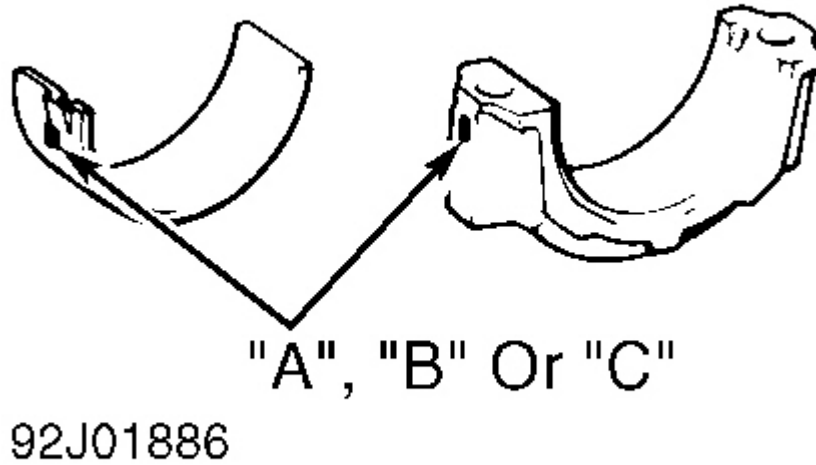

Fig. 15: Identifying Connecting Rod Cap & Bearing Size Marks
2. Connecting rod cap and rod bearing are stamped with size mark "A", "B" or "C". See **Fig. 15** . Ensure size marks on connecting rod cap and rod bearing are the same. If size mark cannot be read, measure rod bearing thickness to determine bearing size. See **ROD BEARING SPECIFICATIONS** table.